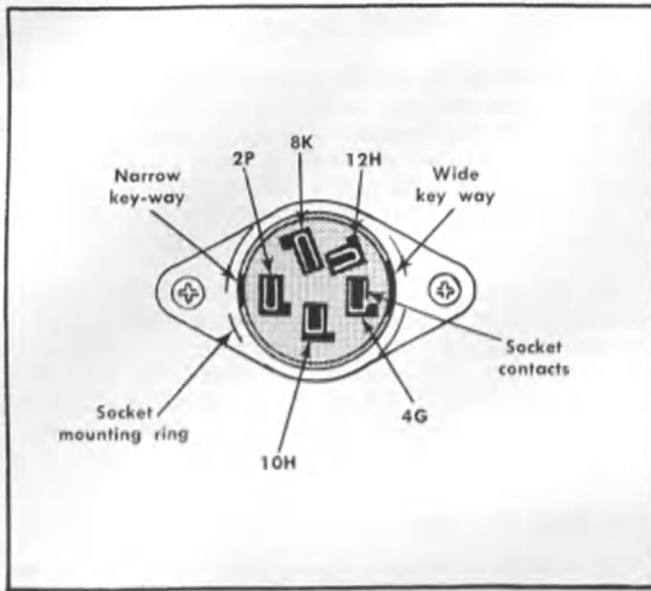

Fig. 4-4. Nuvistor socket detail, showing location of key-ways, (top view).
Each checked pair of nuvistors used in the Type 503 Vertical and Horizontal Amplifiers¹ is mounted in a temperature-stabilizing assembly, and shock-mounted to minimize microphonic effects. If replacement of these tubes is indicated, they should be replaced in pairs. While the removal and replacement procedure is quite simple, reference to Figs. 4-4 and 4-5 may aid in locating and replacing the tubes. Use the following procedure:
3. Insert the replacement nuvistors in their sockets, orienting the tubes so that the wide shield tabs can be pushed into the wide keyways (Fig. 4-4).